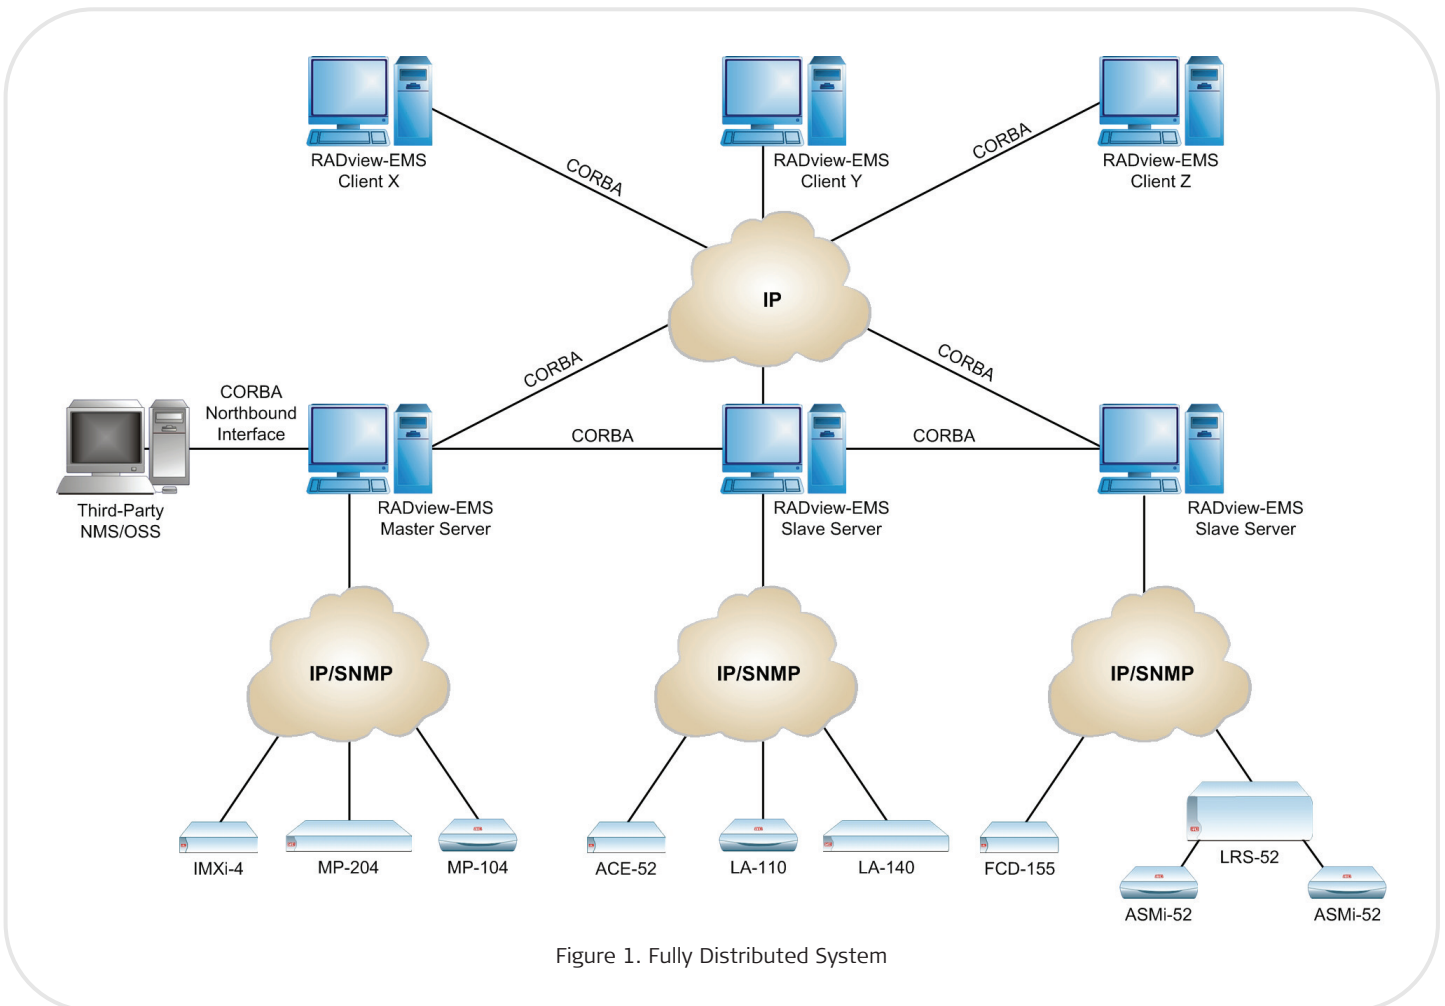
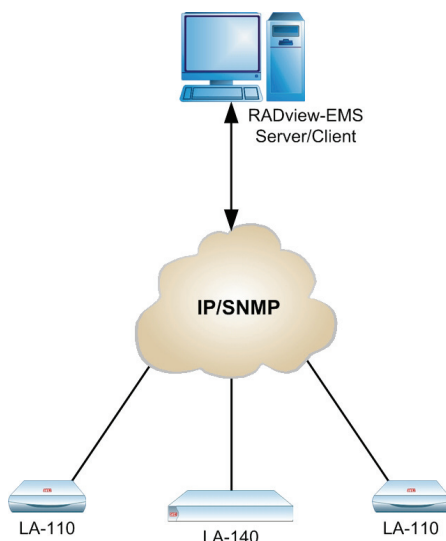

Figure 1. Fully Distributed System
Figure 2. Non-Distributed System
RADview-EMS can be used in a distributed network topology (see *Figure 1*) or in a single-station configuration (see *Figure 2*). It can be installed on a PC-based workstation with Windows XP or on a Unix-based workstation with Solaris 2.8.
- Several clients working opposite a group of servers, managing together several groups/domains of network elements (see *Figure 1*)
- Server and client on a single computer, managing a group of network elements (see *Figure 2*).